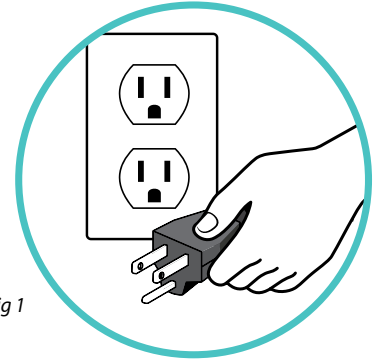

Fig 1
1. Unplug the unit before cleaning (*Fig 1*).